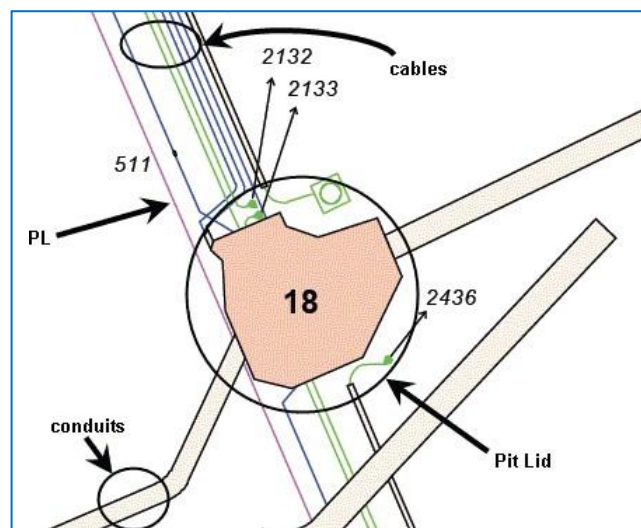

Figure 8
Underground “pits” are numbered on Ausgrid plans, positioned relative to the “property line” (PL), and can be found on either the footpath (nature strip) or the road (refer figure 8).